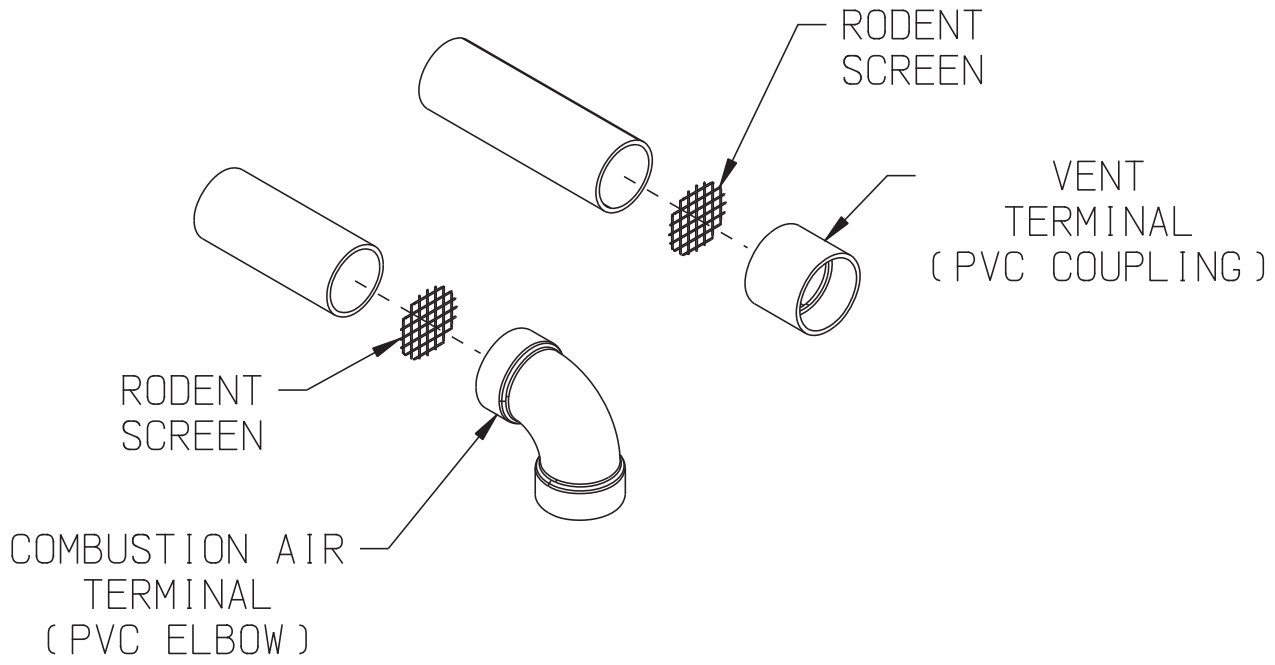

FIGURE 7.20: INSTALLATION OF STANDARD HORIZONTAL TERMINALS
- a. See Figure 7.20 for proper orientation of twin pipe horizontal terminals. Outer edge of both terminals must be within 10" from wall surface. (Figure 7.2)